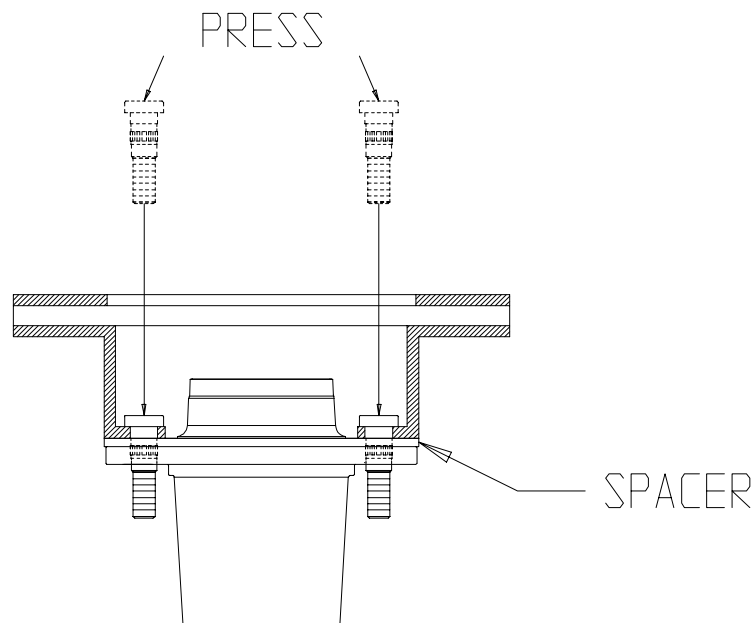

Figure 6. Stud press diagram
1. Place spacer and the brake rotor on the wheel hub aligning the holes. See Figure 6.